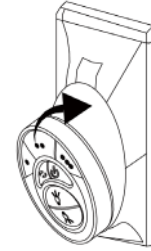

Fig. 27
Step 1. To place the transmitter in the wall plate, put the bottom end in first and then press the top into the wall plate. The transmitter is now held in the wall plate and will function from here. (Fig.27)